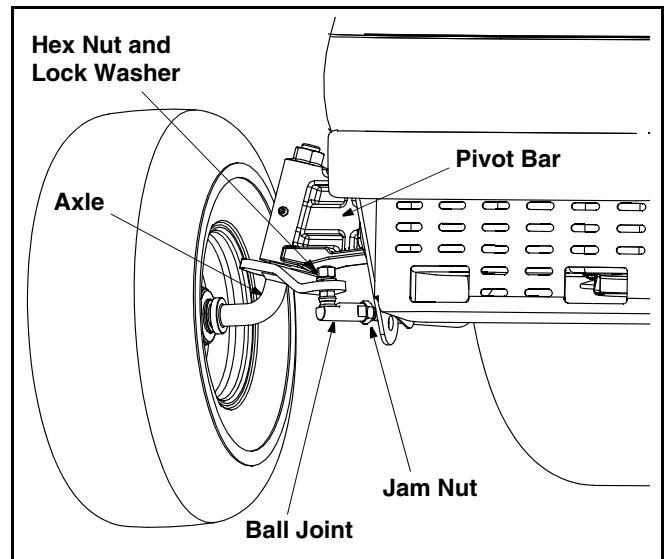

Figure 12
- Loosen the jam nut found on the drag link at the rear of the ball joint. See Figure 12.
- Remove the hex nut and lock washer on the top of ball joint. See Figure 12.